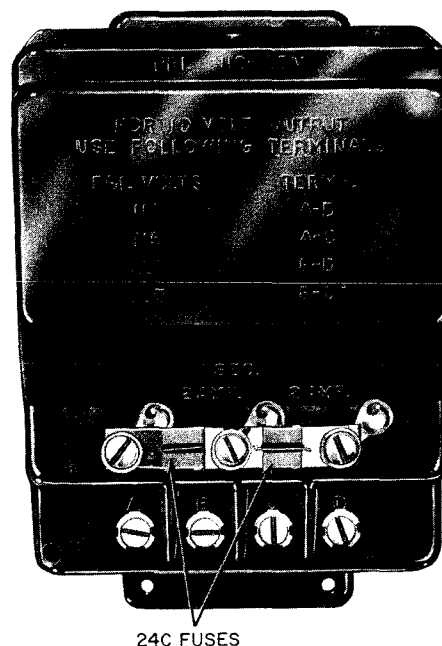

Fig. 1—393B Transformer
- 2.01 The 393B transformer (Fig. 1) is used primarily as a power supply for 10-volt lamps in 1A, 1A1, and 1A2 key telephone systems. It is furnished in a metal box with a removable cover. The box is approximately 8-3/4 inches long, 4-1/4 inches high, and 4 inches deep.
The 24-type fuses of later design are manufactured with a metallic surface on one side only. When placing these fuses in the 393B transformer, be sure the nonmetallic sides of the fuses are together on the center post (Fig. 1).